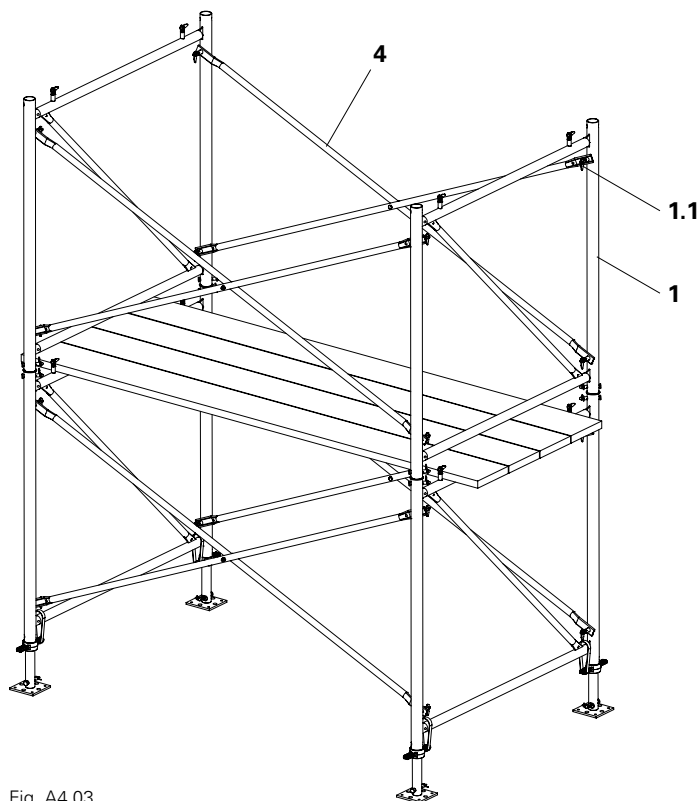

Fig. A4.03
1. Connect Frames PD 8 (**1**) with Diagonal Braces DK (**4**). Insert the ends into the self-securing gravity pins (**1.1**). (Fig. A4.03)